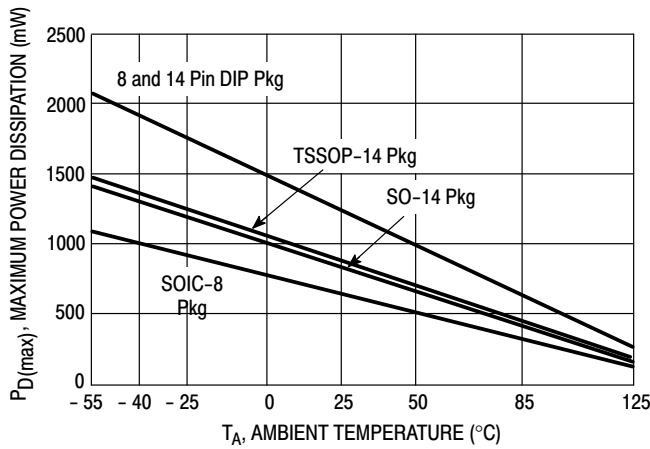

Figure 2. Maximum Power Dissipation versus Temperature
3. Power dissipation must be considered to ensure maximum junction temperature (T_J) is not exceeded. (See Figure 2)